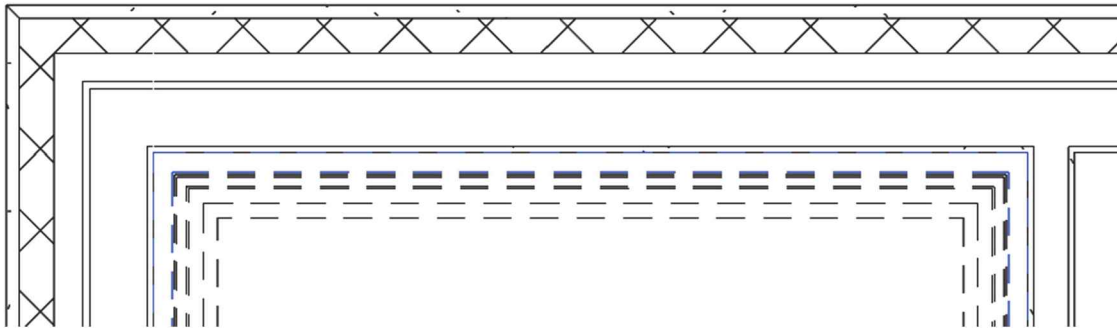

FIGURE 7-7.8 Stair moved north to align with exterior wall
13. Figure 7-7.8 shows the stair in the correct position.